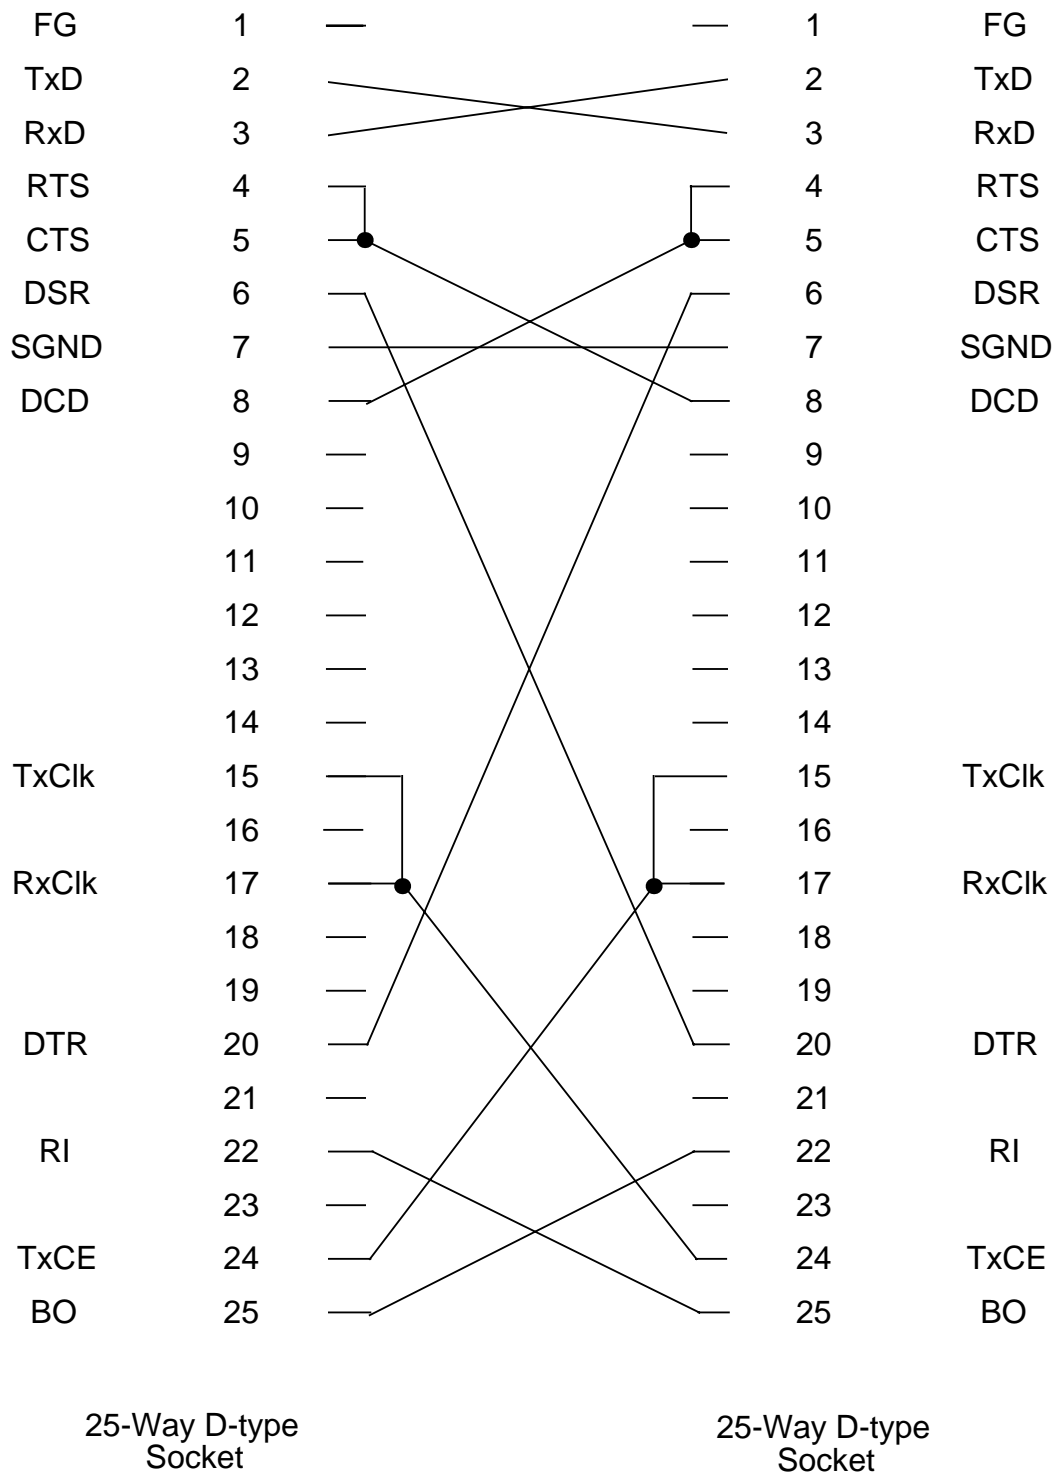

Figure B-8 V.24 Composite Crossover Cable (Ext. Clock)
- (6) RJ8 Application Card to V.24 DTE (8160 provides clocks) use cable X890-403011, Figure B-8.